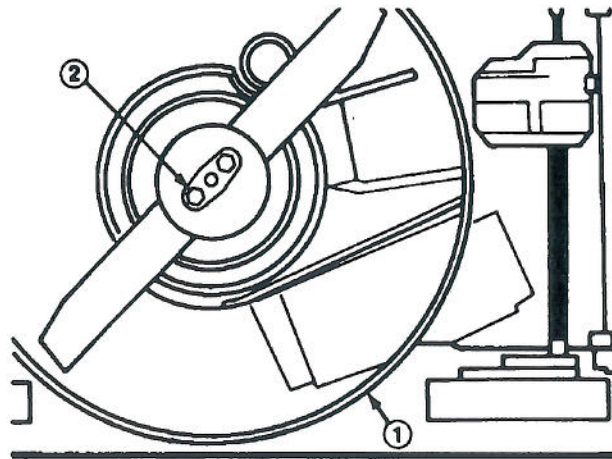

Figure 15
- 2. Tip mower on its right side (Fig. 15).
- 4. Grasp end of blade using a rag or thickly padded glove and remove locknuts, anti-scalp cup and blade (Fig. 15).